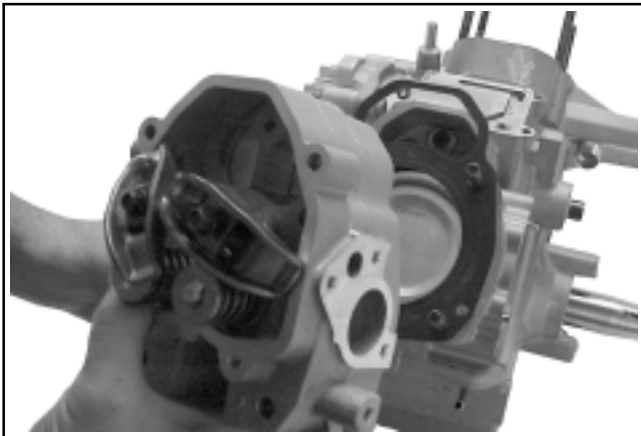

**Figure 9-65. Removing Hex. Flange Nuts and Washers from Studs.**
4. Remove the four hex. flange nuts and washers from the studs securing each cylinder head. See Figure 9-65.